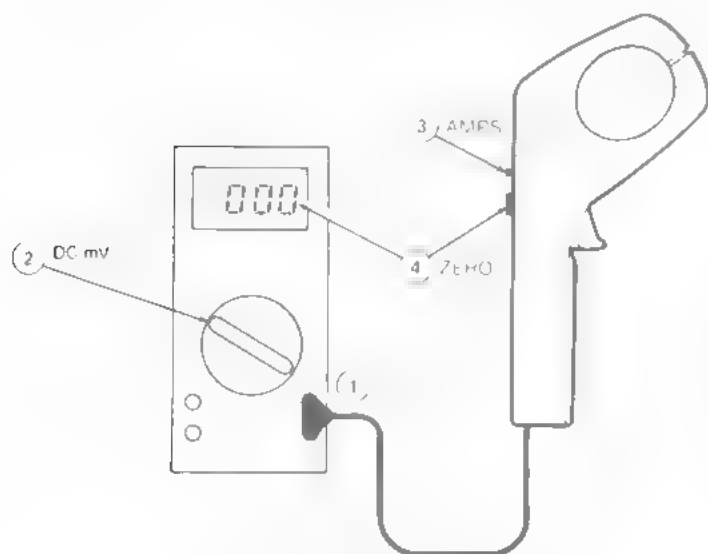

Figure 2-2. DC Zero Adjustment
1. Connect the probe output cable to the voltmeter input and turn the voltmeter on as shown in Figure 2-2. (Observe polarity on output cable.)
If the voltmeter is dc coupled on the ac function, perform steps 2, 3, and 4 of the dc ZERO adjustment procedure (Figure 2-2) before proceeding to the next step